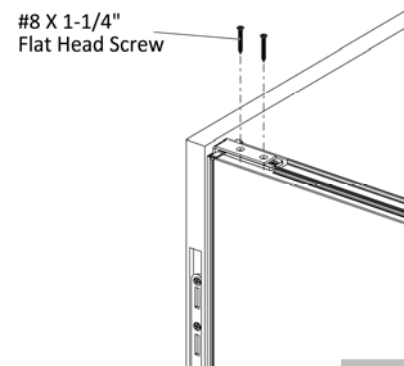

Figure 4
- Drive two #8 X 1-1/4" Flat Head Screws through the holes in gallery panel top bracket into the standard panel, (Figure 4).